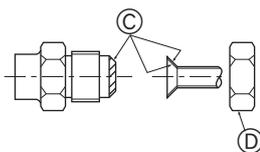

Fig. 5-6
- ① Connect a gauge manifold valve (pressure gauge included) to the service port near the gas stop valve of the outdoor unit so that the refrigerant pressure can be measured.
- ② Turn on the power supply (circuit breaker).
- ③ Close the liquid stop valve, and then perform the test run for cooling operation (SW4-1: ON and SW4-2: OFF).
- ④ Fully close the gas stop valve when the pressure reading on the gauge drops to 0.05 - 0.00 MPa* (approximately 0.5 - 0.0 kgf/cm²).
- ⑤ Stop the air conditioner operation (SW4-1: OFF and SW4-2: OFF).
- ⑥ Turn off the power supply (circuit breaker).
5.5. Connecting pipes (Fig. 5-6)
㉑ (Fig. 5-6)
㉒ (Fig. 5-6)